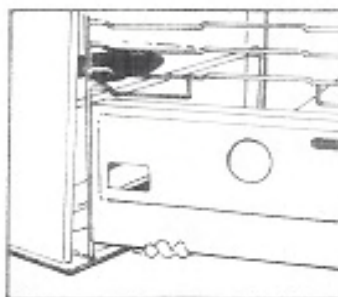
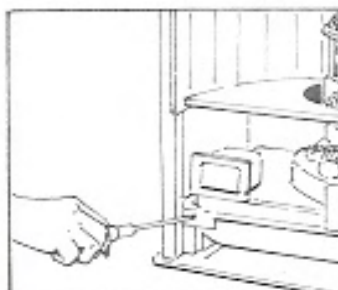

Fig. 1
Fig. 2
- (1) Take off the guard hook and open the guard until making it a right angle, and lift away the guard itself from the casing (Fig. 1).
- (2) Remove chimney.
- (3) Unscrew the both nuts at the right and left side of the fuel tank, also unscrew the tank nut at the back of the casing. Pull out the tank assembly (Fig. 2).